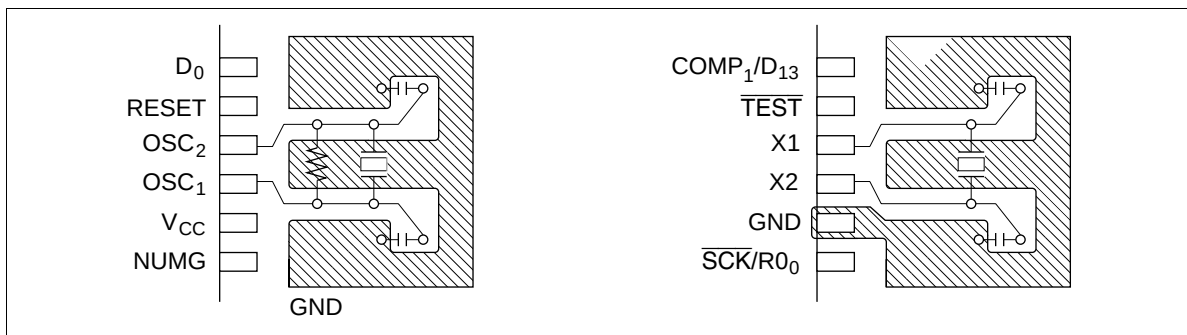

Figure 21 Layout of Crystal and Ceramic Oscillators
2. Writing among OSC1 and OSC2 or X1 and X2, and other elements should be as short as possible, and should not cross other wires. Refer to figure 21.